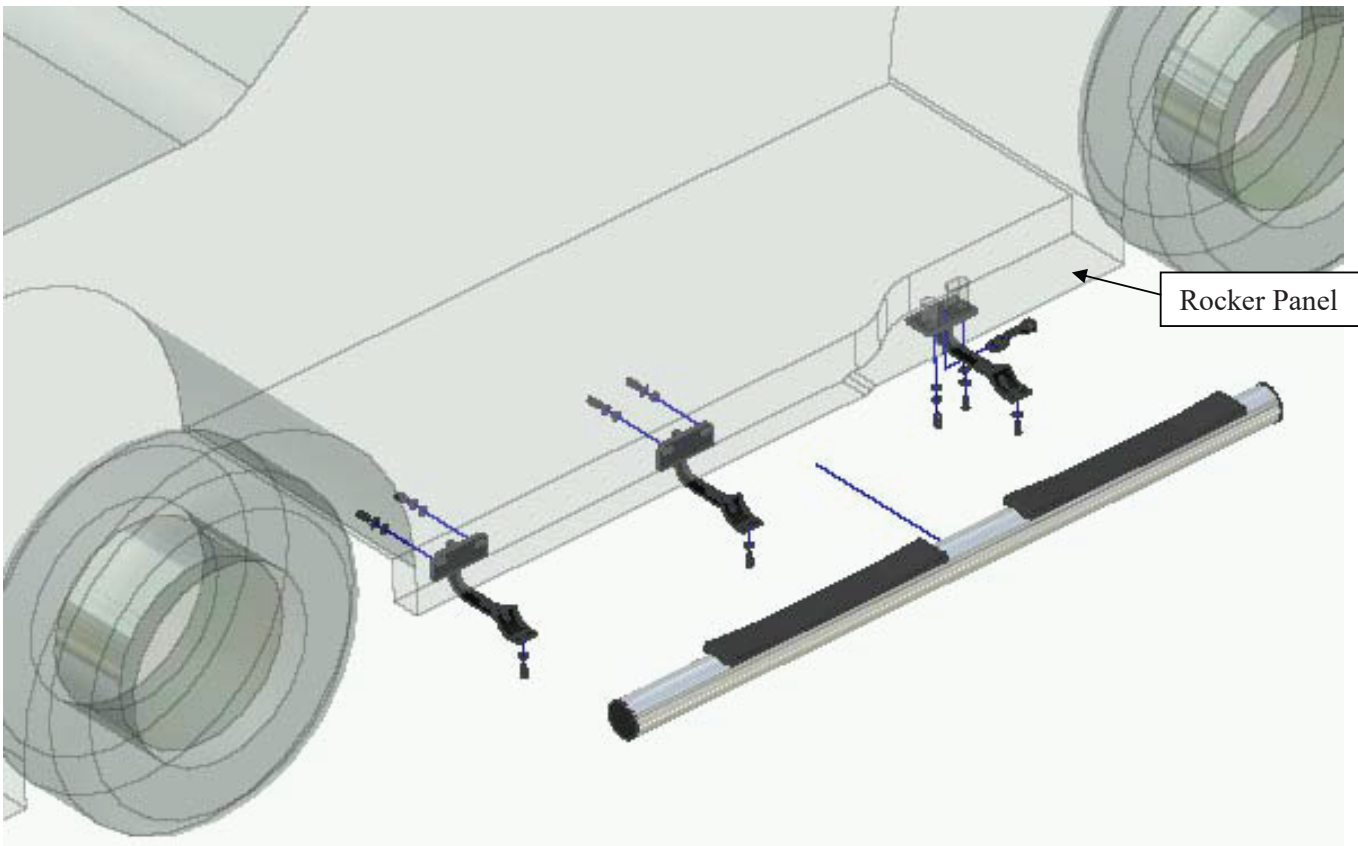
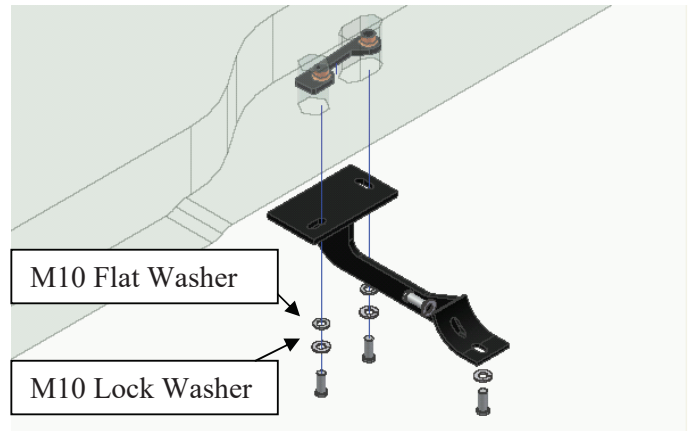

Figure 1.1 - Front Driver-Side View
Figure 1.3 - Rear Bracket
4. Locate the rear mounting holes (one slot and one hole) on the underside of the rocker panel, below the rear door. Insert (1) M10 Nut Plate into slot so holes of Nut Plate line up with mount holes on the vehicle(see Figure 1.3).
5. Attach rear bracket to vehicle rocker panel using (2) M10 – 1.50 x 30mm Hex Head Bolts, (2) M10 Lock Washers, and (2) M10 Flat Washers. Hand tighten bolts through Nut Plate.
6. Attach side tube to brackets using (6) M10 – 1.50 x 30mm Hex Head bolts and (6) M10 Lock Washers. Hand tighten.
**Note:** Step Pad closer to the end of the tube goes to the rear. (see Figure 1.1).